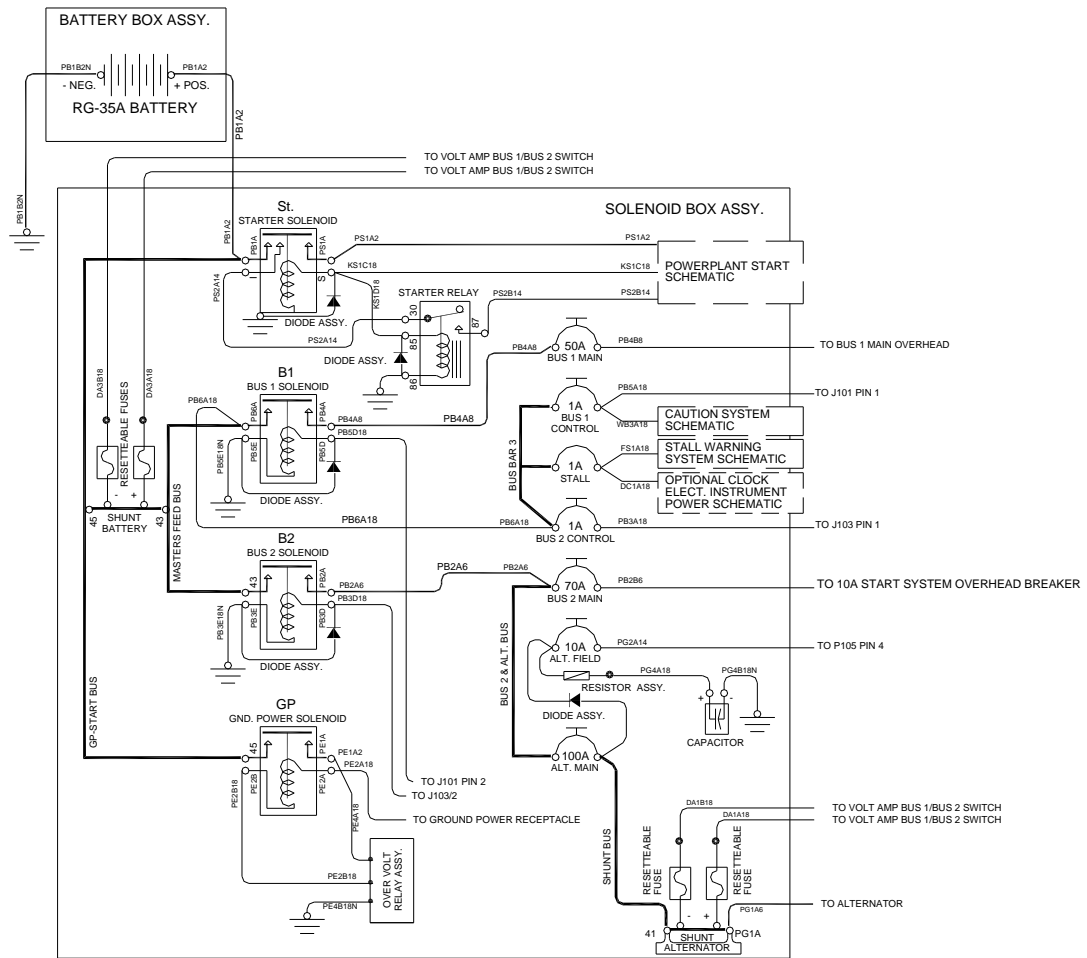

Figure 5 - Partial wiring schematic showing underfloor circuit breakers.
- Refit the Circuit Breaker Assembly to the solenoid box. Refer to Figure 5 for the wiring to circuit breakers. Refer also to Chapter 24, Figure 24-1 of the Service Manual